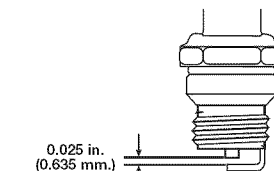

Fig. 27
- Replace a cracked, fouled or dirty spark plug. Set the air gap at **0.025 in. (0.635 mm)** using a feeler gauge (Fig. 27).